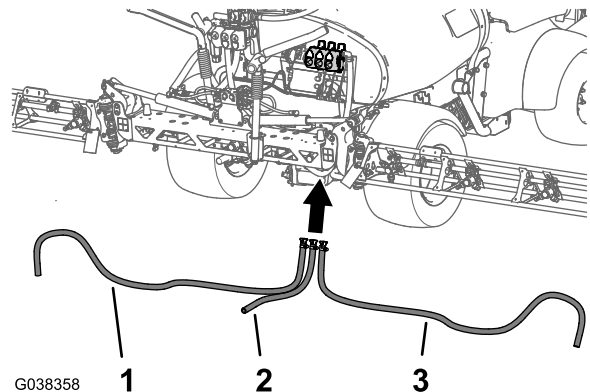

Figure 79
- Route the left, center, and right boom-supply hoses to the boom-section valves as shown in Figure 79.